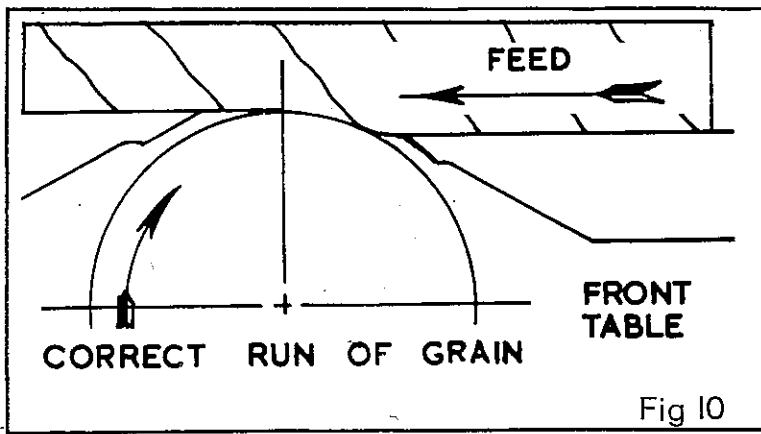

Fig 10
1. To obtain the best surface finish always check the direction of the grain, which should run with the cutter as shown in Fig. 10